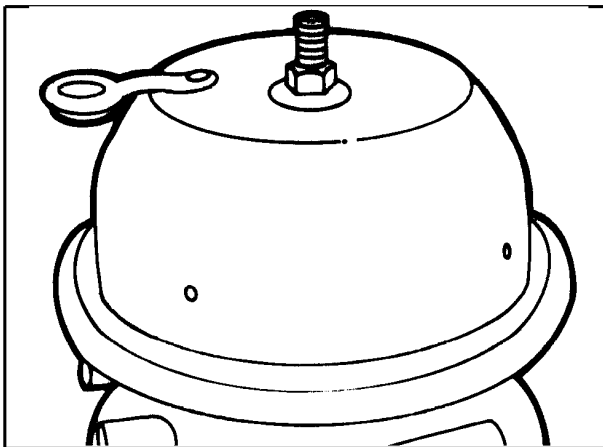

Figure 12 Install Flat Washer and Nut On Release Bolt (Finger Tight)
6. Holding the bolt locked into the piston, install the flat washer and the release nut on the end of the release bolt, and turn the nut down against the flat washer until finger tight (Figure 12(See Figure 12, page 9)).
6. Hold the bolt in the locked position and install the flat washer and release nut on the end of the release bolt. Turn the nut down against the flat washer until it is finger tight (Figure 12(See Figure 12, page 9)).